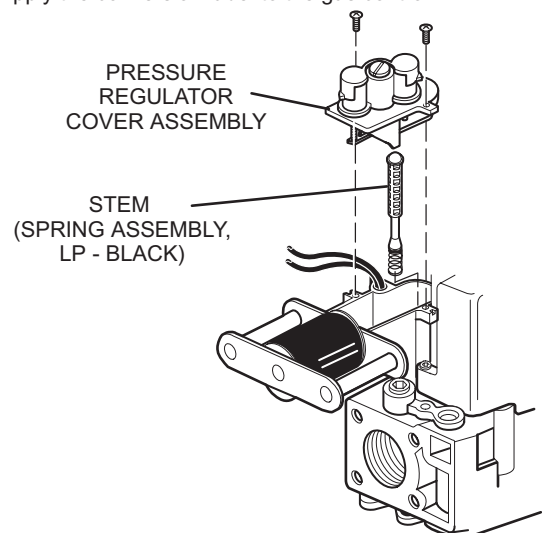
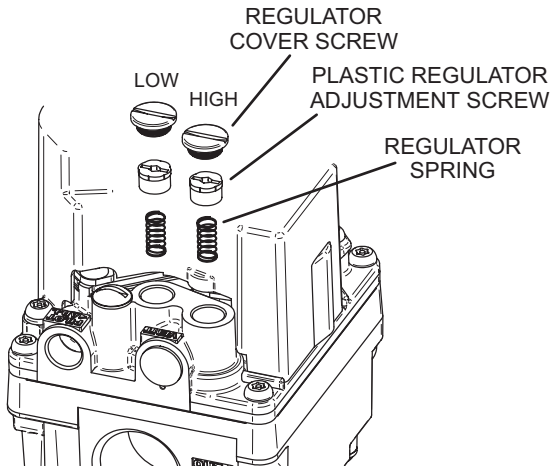

FIGURE 2
FIGURE 3
- 8 - Install the spring kit. Refer to FIGURE 2 or FIGURE 3 and manufacturer's instructions packaged with spring kit.